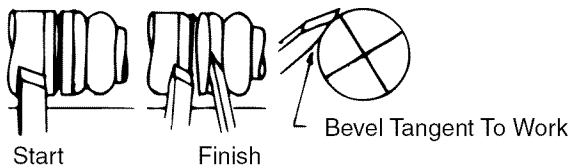

Figure 46
- Push the chisel straight into each cut and rotate horizontally to round off the adjacent edges. It must be moved slightly in the direction of rotation at the same time to keep the point from digging into the adjacent bead (See Figure 46).